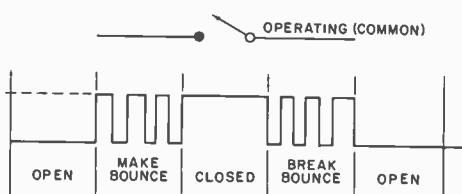

Fig. 3. Bounce pattern of a single-pole-single-throw switch.
**Contact Bounce in Spst Switches.** A single-pole, single-throw (form-A) switch and its idealized timing diagram are shown in Fig. 3. This switch is equivalent to a single side of the form-C switch. When a spst switch is operated, break bounce occurs between the movable arm and the normally closed contact. No further action occurs until the switch is released. Following release, the operating strap remakes with the normally closed contact, bounces, and make bounce occurs. As in the form-C switch, make bounce is usually more severe than break bounce. The time required for make bounce to subside is an important factor in debouncing the form-A contact.